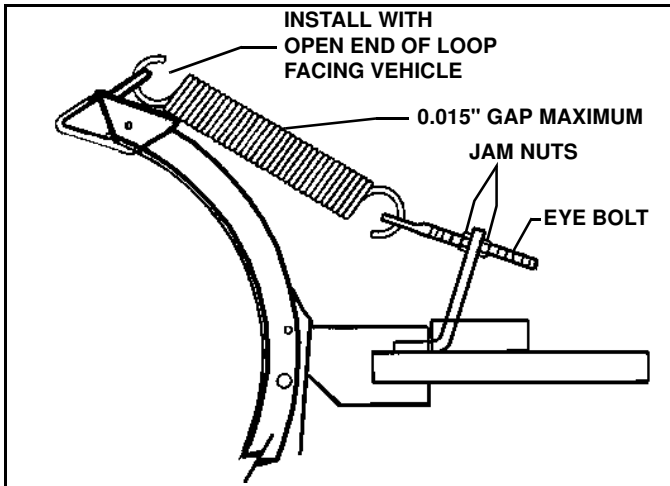

Figure 2-10
4. Only one set of eyebolt mounting holes are present in the swing frame spring brackets on these models. A jam nut on either side of the spring bracket secures each eyebolt and provides for adjustment. (See Figure 2-10)